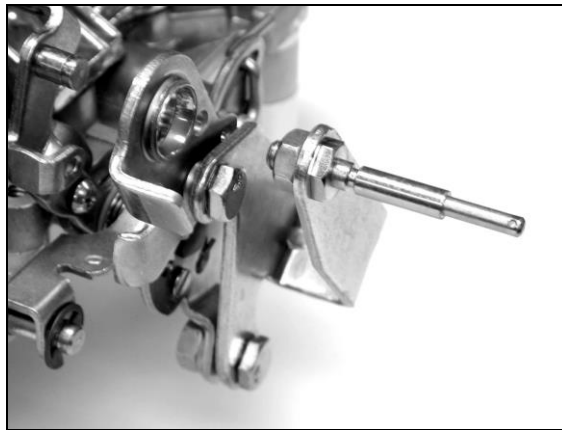

Figure 1—Chrysler applications
1. If you are replacing an existing Holley carburetor, you may need to purchase and install a throttle lever extension (Holley P/N 20-7) on the carburetor. Remove the throttle stud and nut from the original carburetor. You can purchase a new stud from your Holley dealer (Holley P/N 20-67). Install the stud in the throttle extension lever (**Figure 1**).